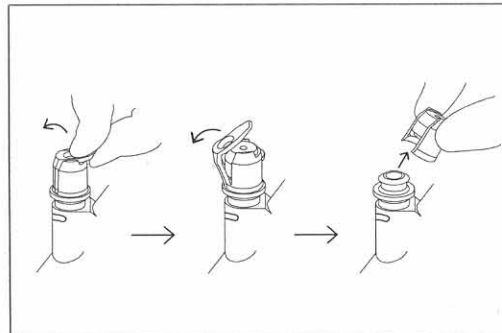

Figure 7.7
3. Remove the Biopsy Valve from the endoscope and discard it. (See Figure 7.7)